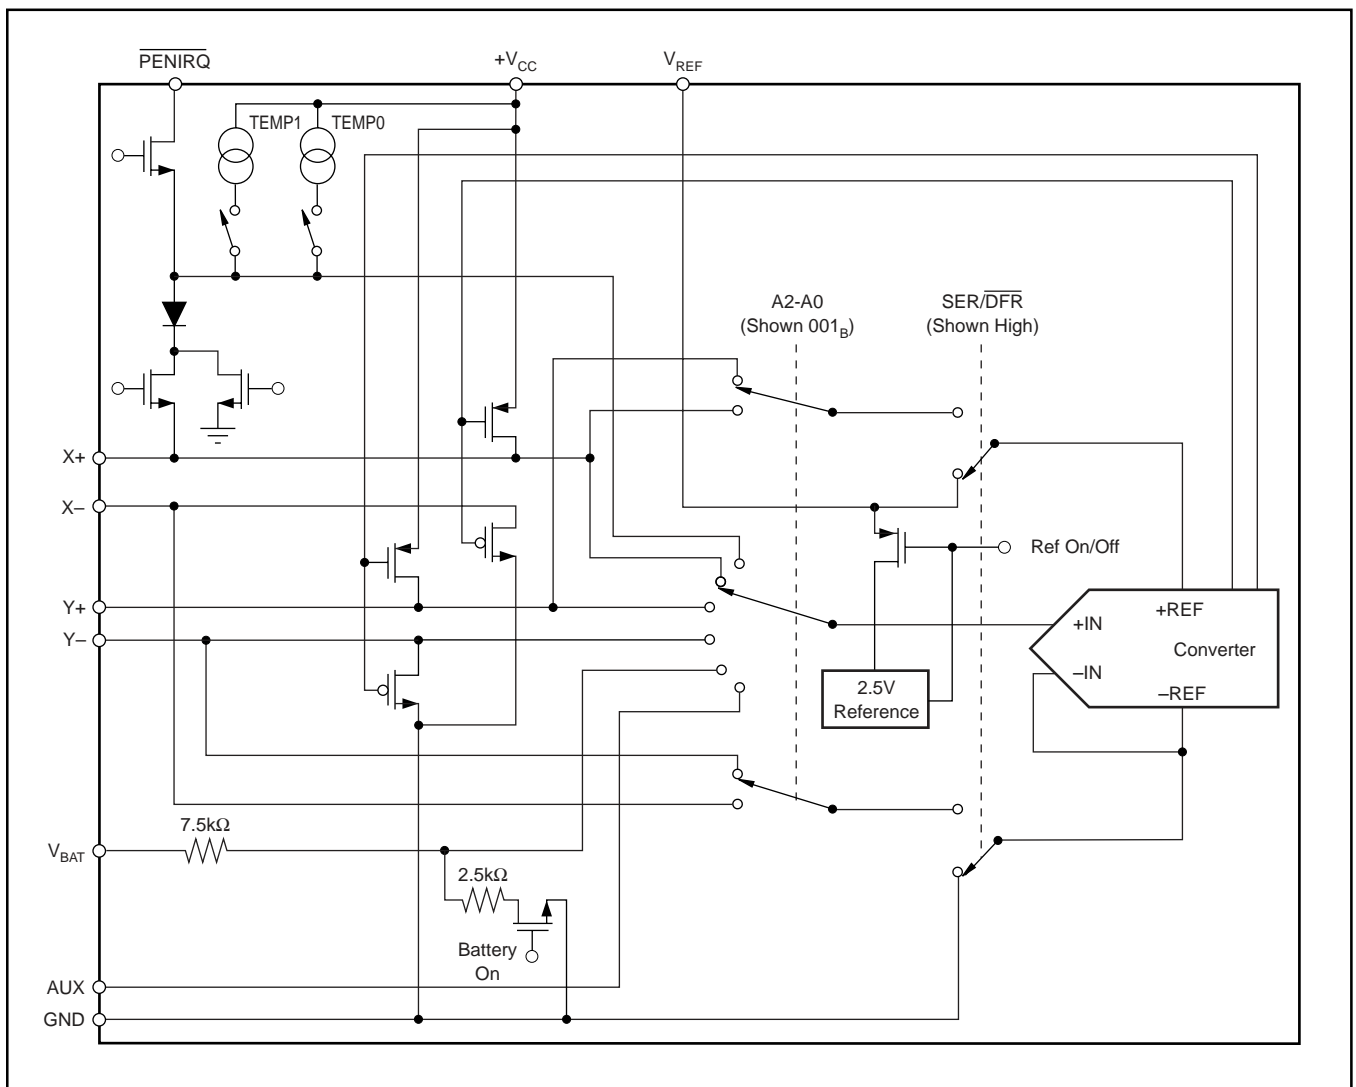

FIGURE 2. Simplified Diagram of Analog Input.
See Figure 2 for a block diagram of the input multiplexer on the ADS7846, the differential input of the ADC, and the differential reference of the converter. Table I and Table II show the relationship between the A2, A1, A0, and SER/DFR control bits and the configuration of the ADS7846. The control bits are provided serially via the DIN pin—see the Digital Interface section of this data sheet for more details.
When the converter enters the hold mode, the voltage difference between the +IN and -IN inputs (see Figure 2) is captured on the internal capacitor array. The input current into the analog inputs depends on the conversion rate of the device. During the sample period, the source must charge the internal sampling capacitor (typically 25pF). After the capacitor has been fully charged, there is no further input current. The rate of charge transfer from the analog source to the converter is a function of conversion rate.
The voltage difference between  $+\text{REF}$  and  $-\text{REF}$  (shown in Figure 2) sets the analog input range. The ADS7846 operates with a reference in the range of 1V to  $+V_{\text{CC}}$ . There are several critical items concerning the reference input and its wide voltage range. As the reference voltage is reduced, the analog voltage weight of each digital output code is also reduced. This is often referred to as the LSB (least significant
**Addressing**—The next three bits (A2, A1, and A0) select the active input channel(s) of the input multiplexer (see Tables I, II, and Figure 2), touch screen drivers, and the reference inputs.
**$SER/\overline{DFR}$** —The  $SER/\overline{DFR}$  bit controls the reference mode, either single-ended (high) or differential (low). The differential mode is also referred to as the ratiometric conversion mode and is preferred for X-Position, Y-Position, and Pressure-Touch measurements for optimum performance. The reference is derived from the voltage at the switch drivers, which is almost the same as the voltage to the touch screen. In this case a reference voltage is not needed, as the reference voltage to the ADC is the voltage across the touch screen. In the single-ended mode, the converter reference voltage is always the difference between the  $V_{REF}$  and GND pins (see Tables I and II, and Figures 2 through 5 for further information).